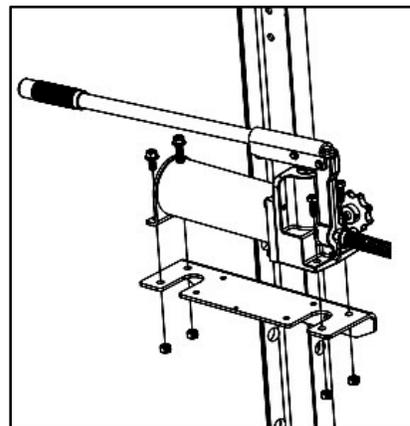

Fig. 7: Manual pump installation
Attach the manual pump to the pump bracket using (2) 3/8"x1" bolts and (2) 3/8"x3/4" bolts and 3/8" nuts as shown in Fig. 7.